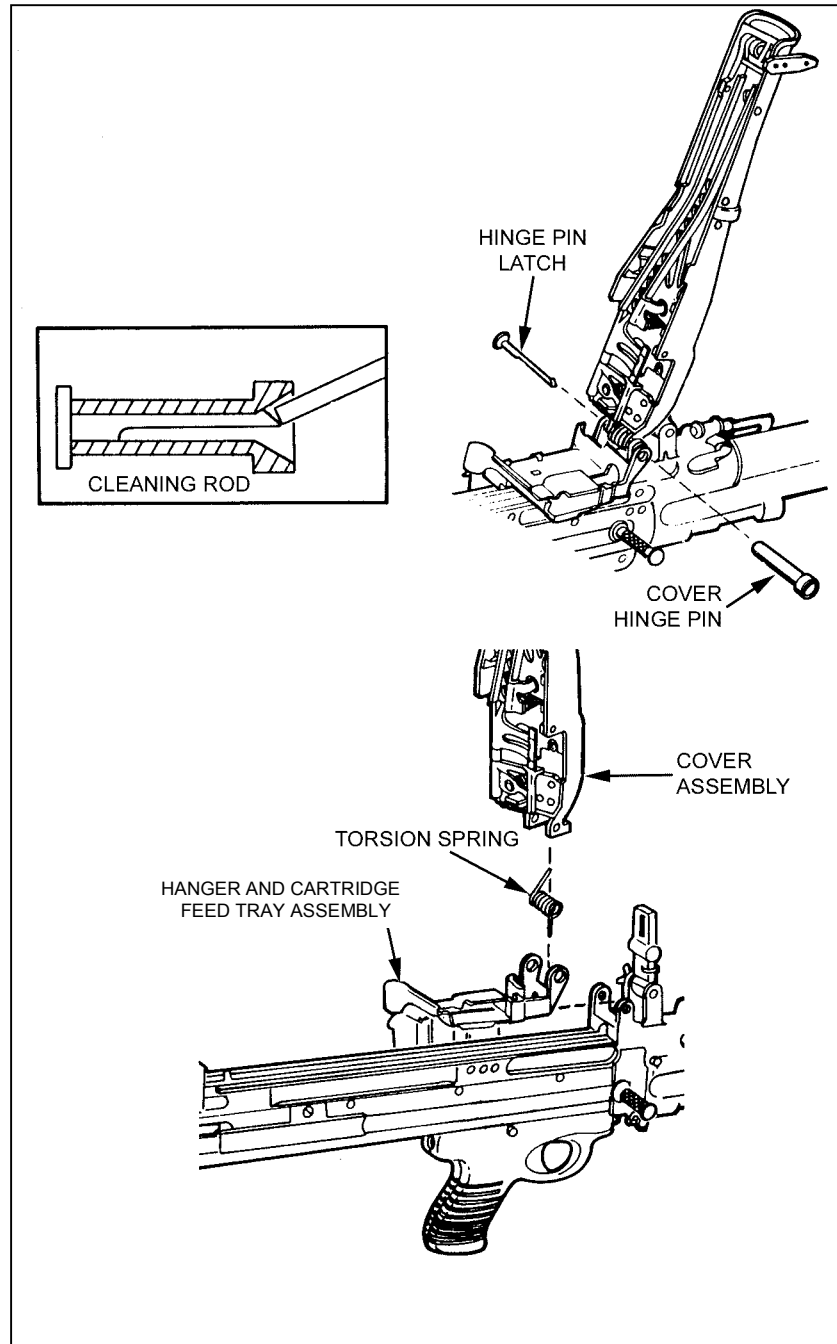

Figure 2-11. Removal of the cover, hanger and cartridge feed tray assemblies.
c. **Removing the Cover, Hanger and Cartridge Feed Tray Assemblies.** The gunner uses a cleaning rod to unlatch the hook of the hinge pin latch. He removes the hinge pin latch and cover hinge pin. He removes the cover assembly, torsion spring, and hanger and cartridge feed tray assembly (Figure 2-11).